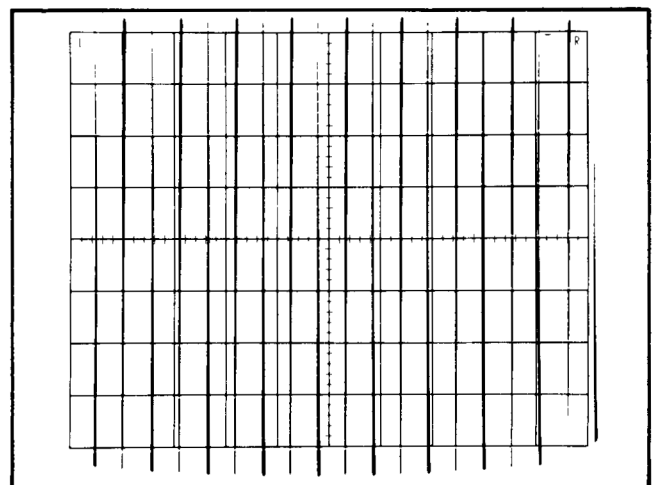

Fig. 5-5. Typical CRT display showing good geometry.
- Check—Bowing of the vertical portions of the display not to exceed 0.5 minor div (Fig. 5-5).